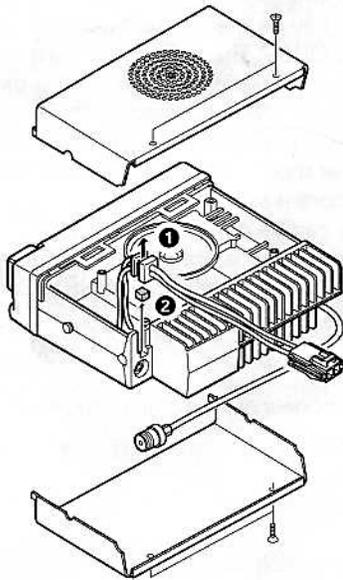

Fig. 1
1. Remove the upper and lower halves of the transceiver case, and lift the DC cord bushing (1) from the chassis.
2. Remove the pad as shown in Figure 1 (2).
3. Insert the KCT-19 cable (3) into the chassis (4).
4. The wire harness band (5) must be inside the chassis.
5. Replace the DC cord bushing (6).